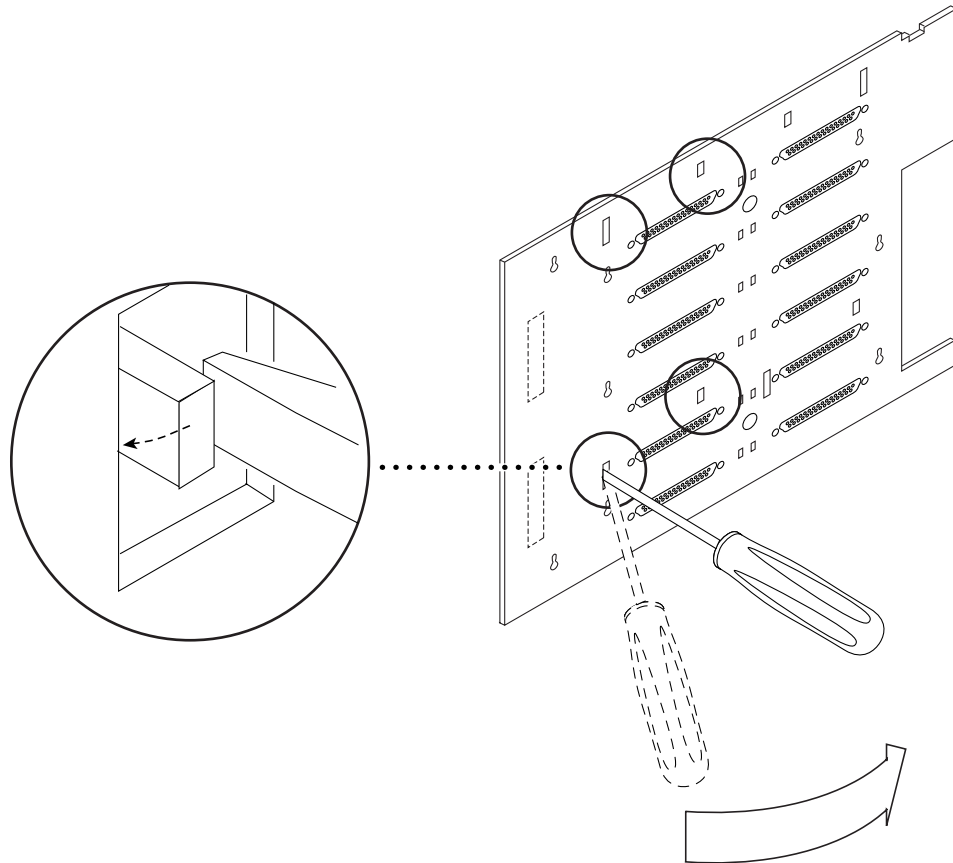

FIGURE 5-6 Unlatching the Tabs on the Left Side
- a. Angle the screwdriver to right to unlatch the tabs from the four hooks on the left side of the unit (FIGURE 5-6).